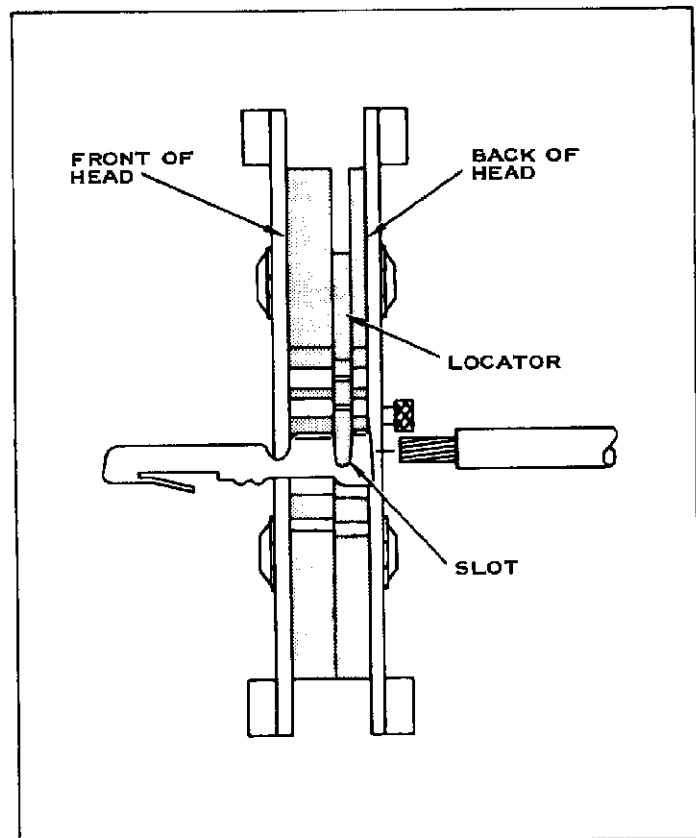

FIGURE 5
2. Place the terminal into the proper Tool Crimp Section as shown in Figure 2. Make sure the Locator fits into the slot between the terminal's wire barrel and insulation barrel. Figure 5.